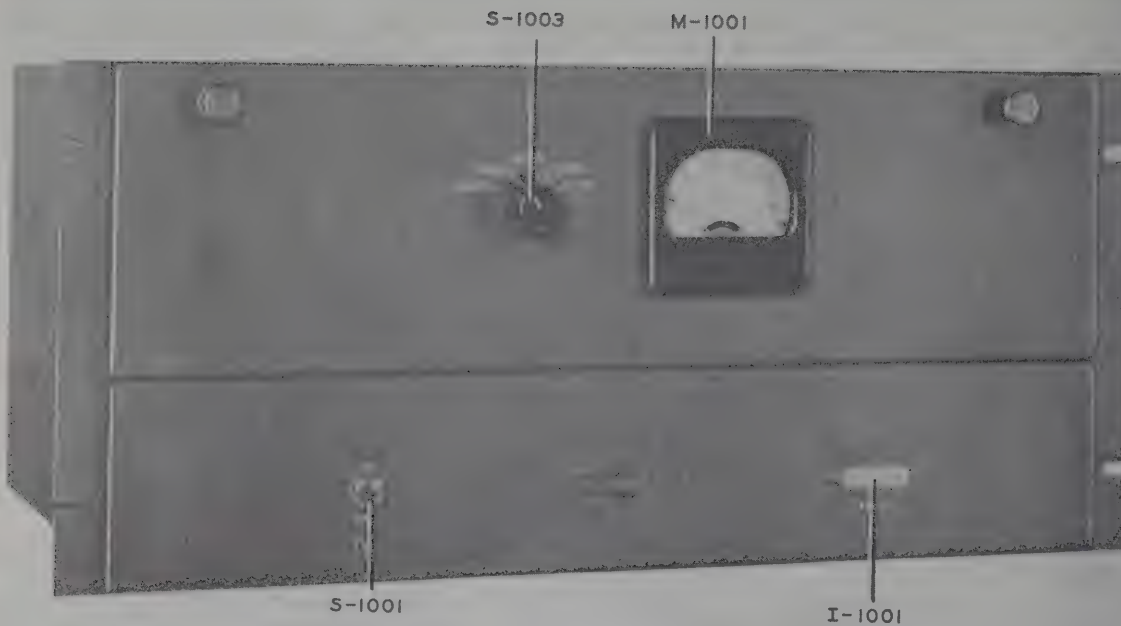

Figure 28. Power Supply PP-454/FRT-5 Controls.
*d. Power Supply PP-454/FRT-5 (fig. 28).*